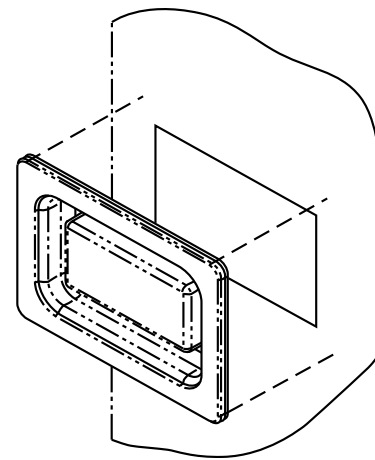

**Fig. 4 – Installation of Window Bezel for Circuit Breaker Model Heater**
4. Circuit breaker models require installing a window bezel in unit door to provide safe access to circuit breakers. The window bezel mounts on the outside of the blower door (Fig. 4).
- Remove adhesive backing from window bezel and from the outside. Insert the window through the rectangular hole and seat firmly on the door surface. Press firmly in place to seat the adhesive (Fig. 4).